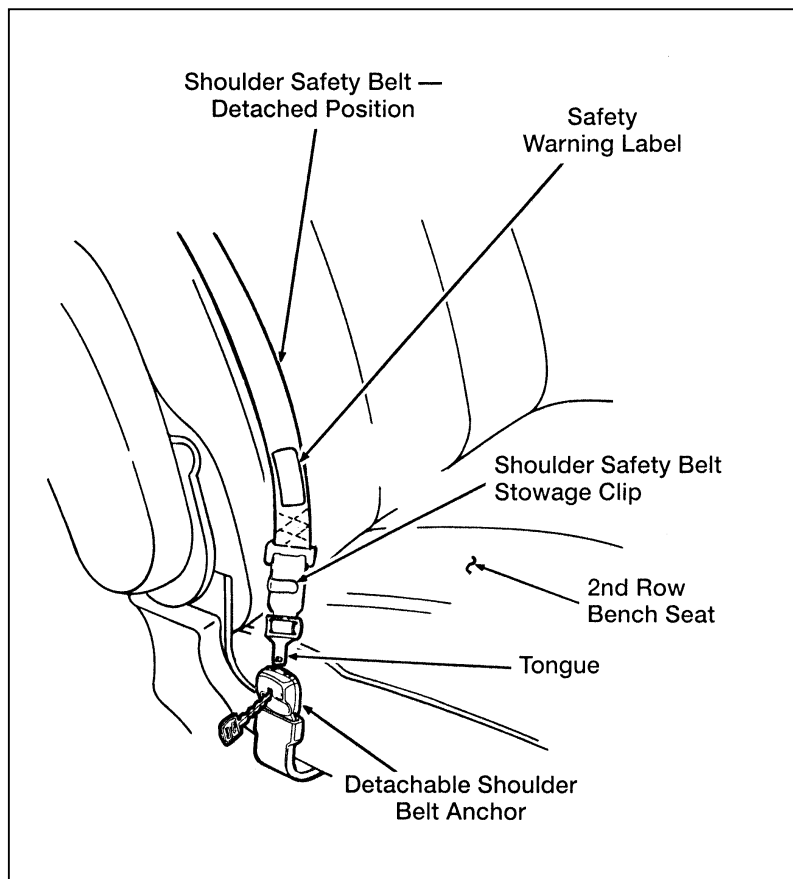

Figure 1: Second row bench seat detachable anchor
1. Disengage the safety belt from the seat by inserting a key or small screwdriver into the slot provided on the detachable anchor (see Figure 1). When this shoulder belt assembly is free of the seat, allow the retractor to wind up the slack in the belt.